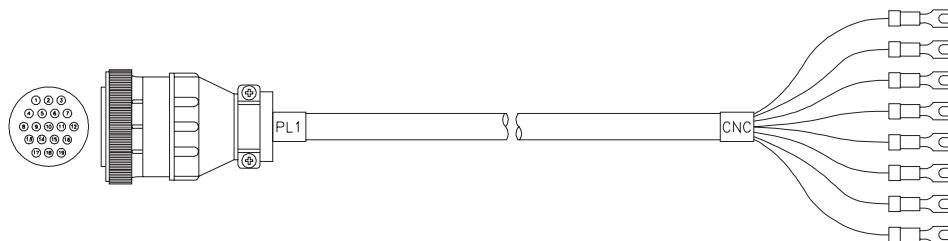

**Figure 3-8 Interface Cable (for use with full CNC Control)**
- ⑥ Connect interface cable (for use with full CNC control) between power supply and CNC (Fig. 3-8).
Connect the interface cable between the power supply and CNC (Fig. 3-8).